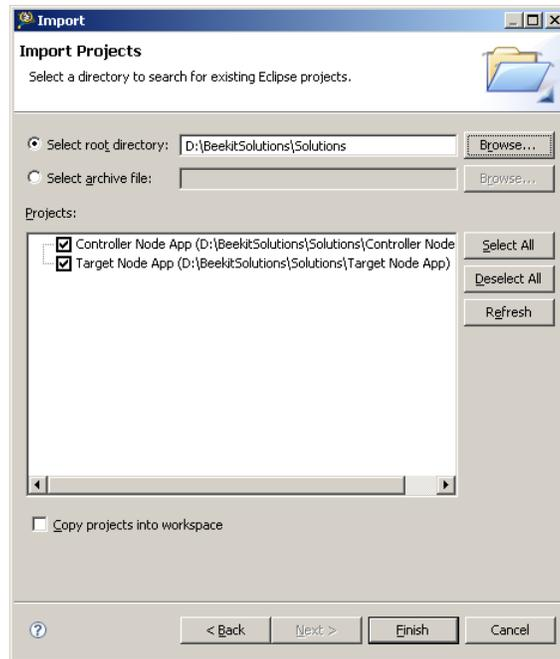

Figure 2-20. CodeWarrior Name New Project Window
6. In this example as shown in Figure 2-20, it is: D:\BeeKitSolutions\Solutions.